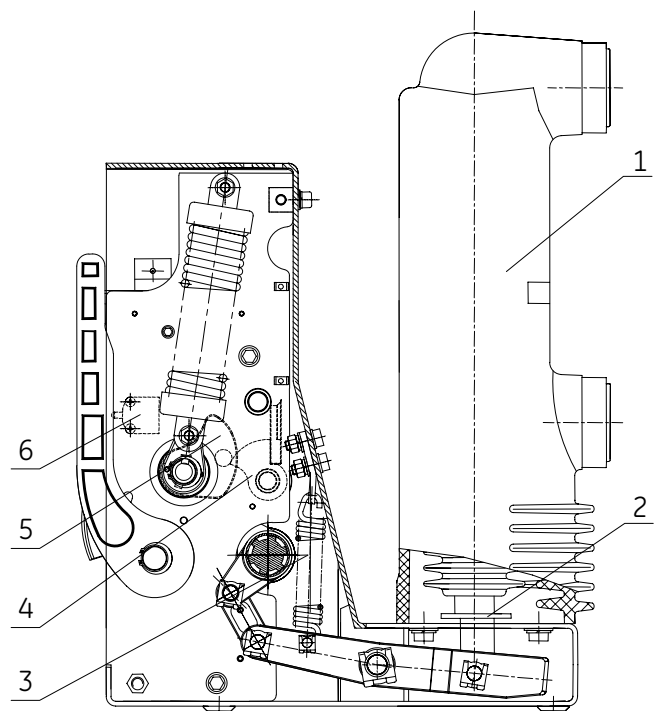

Figure3
When the charging operation is complete, you can hear strong cranking sound, and the spring charging indicator (13) will show charged, as well as the status of position switch (6) will cut the secondary supply to charging. The operating mechanism is ready for the next operation. (Figure 3)